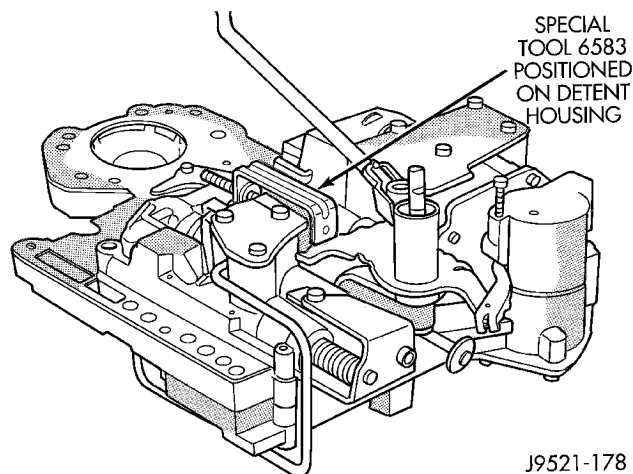

Fig. 47 Detent Ball And Spring
(14) Secure detent ball and spring with Retainer Tool 6583 (Fig. 47).